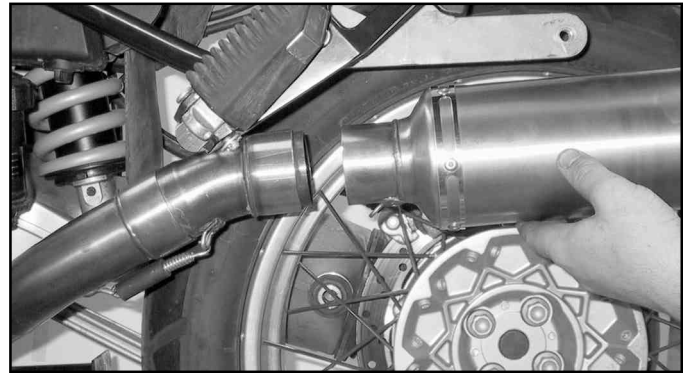

Figure 11
9. Install the muffler onto the connector pipe. Install a retainer spring from center pipe to connector pipe. **Figure 11 & 12.**